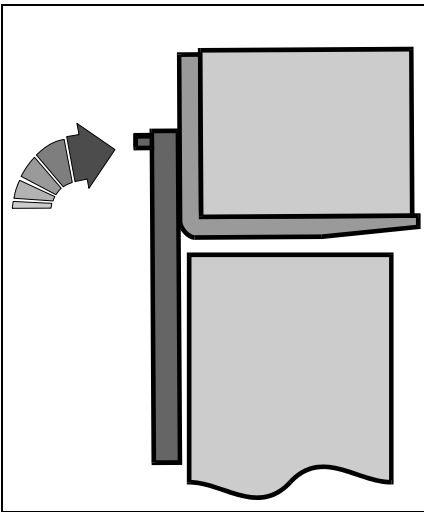

Figure 4-19: Leveling the Load
9. Tilt the mast forward so the load is level with respect to the rack bottom, and then carefully lower the load onto the rack. See **Figure 4-19**.